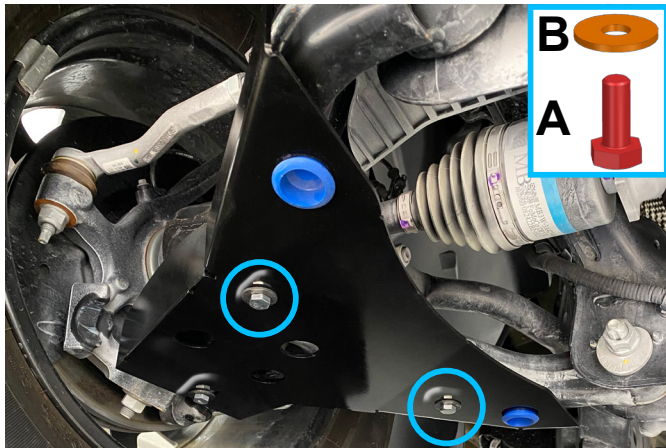
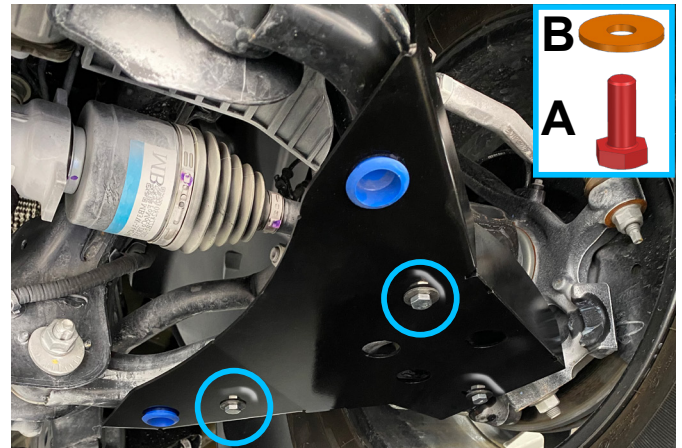

Fig. 5
Fig. 6
3. Attach left lower control arm skid plate (item 1) and right lower control arm skid plate (item 2), using bolts M8x30 (item A) and washers 8 (item B), as shown in fig.5 and fig.6.